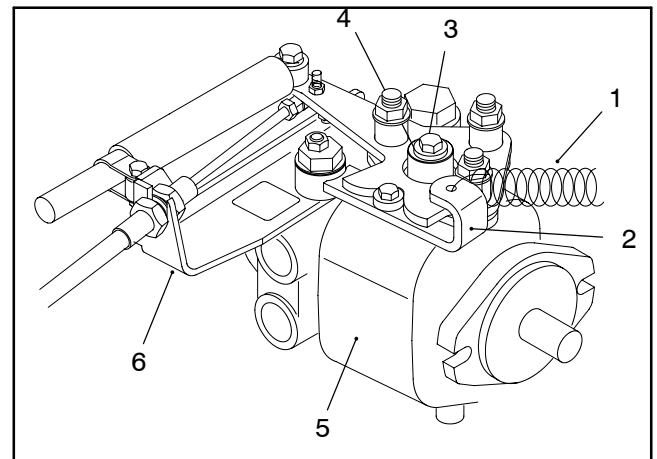

Figure 32
3. Disconnect extension spring from the neutral arm. Remove cap screw and pivot washer from camplate shaft of hydrostat (Fig. 32).
13. Fasten and tighten cap screw and pivot washer to the camplate shaft of the hydrostat. Connect extension spring to the neutral arm (Fig. 32).